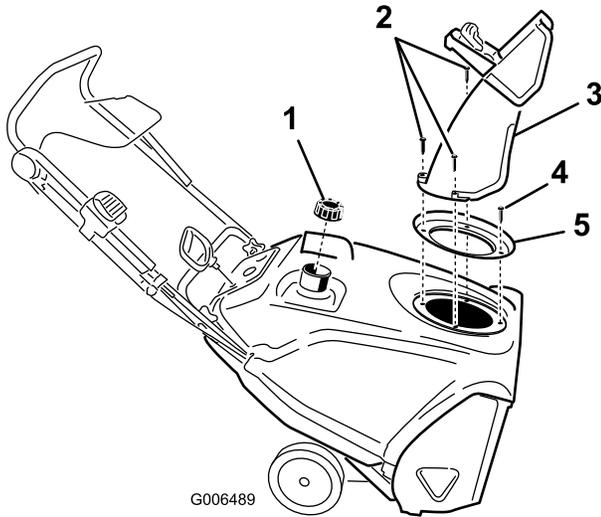

Figure 32
3. Remove the discharge chute, the discharge-chute handle, and the chute seal by removing the 3 large screws and 1 small screw (Figure 32).